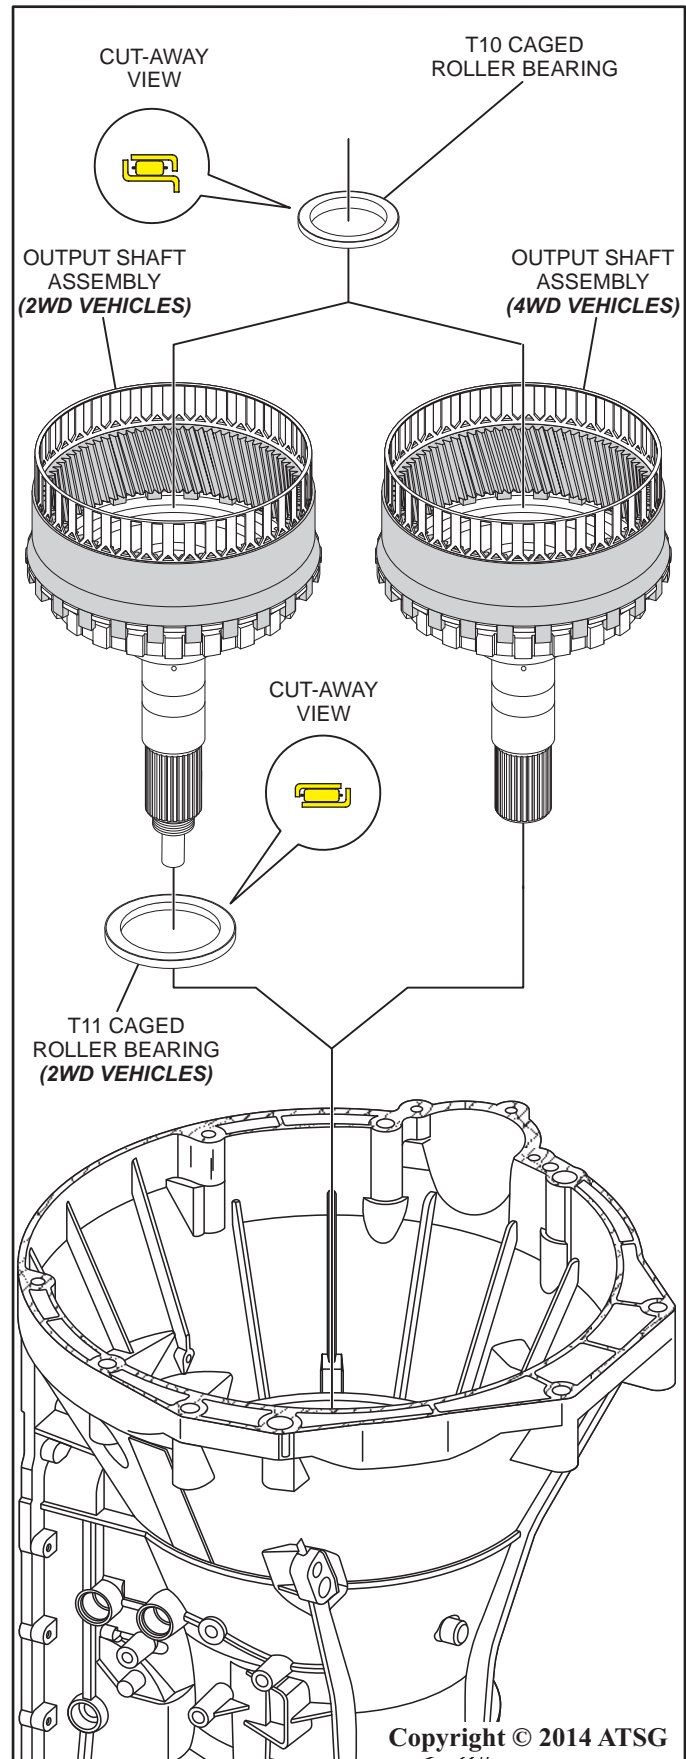

Figure 134
7. Install the output shaft assembly as shown in Figure 134.
Install the T11 caged roller bearing into the case as shown in Figure 134.
9. Install the T10 caged roller bearing into the output shaft assembly as shown in Figure 134.